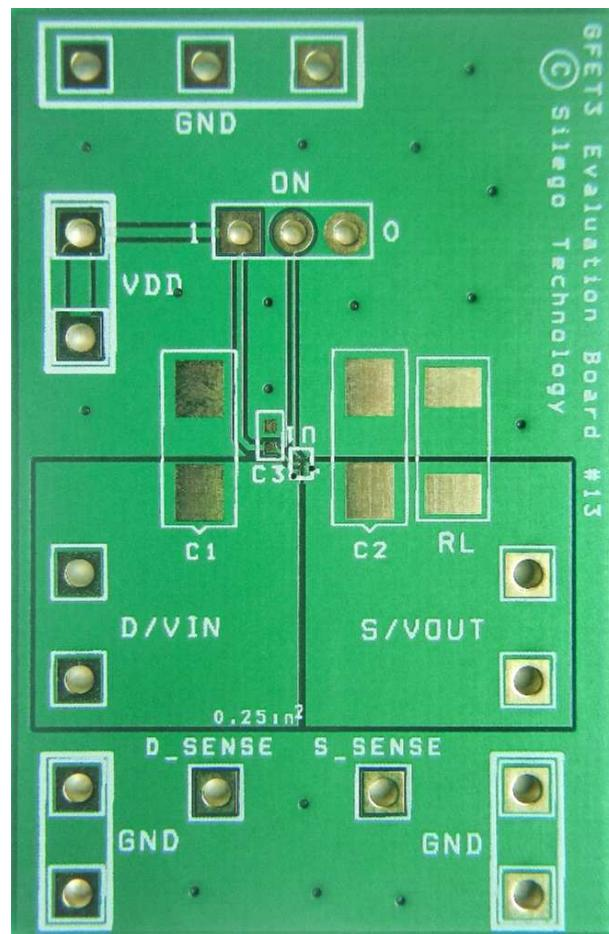

Figure 28. SLG59M1746C Evaluation Board
2. Since the VIN and VOUT pins dissipate most of the heat generated during high-load current operation, it is highly recommended to make power traces as short, direct, and wide as possible. A good practice is to make power traces with absolute minimum widths of 15 mils (0.381 mm) per Ampere. A representative layout, shown in Figure 28, illustrates proper techniques for heat to transfer as efficiently as possible out of the device;
A GreenFET Evaluation Board for SLG59M1746C is designed according to the statements above and is illustrated on Figure 28. Please note that evaluation board has D_Sense and S_Sense pads. They cannot carry high currents and dedicated only for RDS_{ON} evaluation.